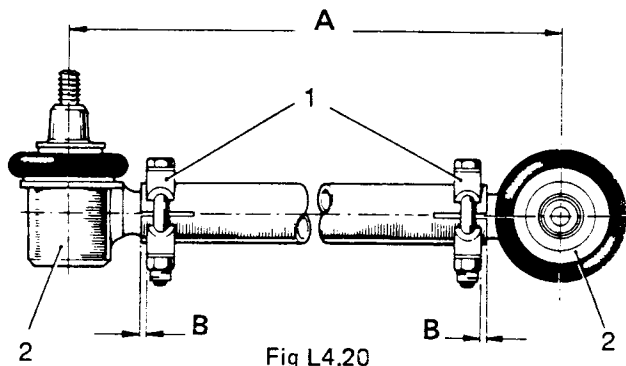

Fig L4.20
- (1) Refer to Fig L4.20. Slacken the ball joint clamp fixings (1).
- (2) Unscrew the ball joints (2) (LH and RH thread).